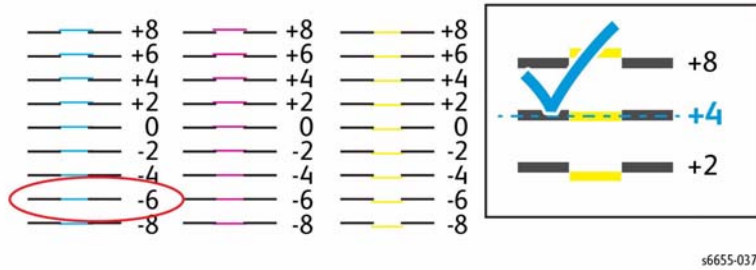

Figure 1 Circle the Group with Aligned Color and Black Bars
6. Starting with the left side calibration lines, circle the line in each group where the color bar aligns with the adjacent black bars. An example is shown in Figure 1.